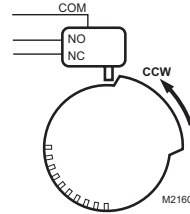

Fig. 3. Switching configuration (top view) for counterclockwise ↺ rotation.
NOTE: With switch cam as shown in Fig. 3, the normally closed contact opens during counterclockwise ↺ rotation and the normally open switch closes.
6. Move each cam inside switch assembly to the appropriate position. Remember the direction of travel of the cam for switching purposes (see Fig. 3 and 4). Monitor the switch closure with an ohmmeter for a continuity check. See Table 3.